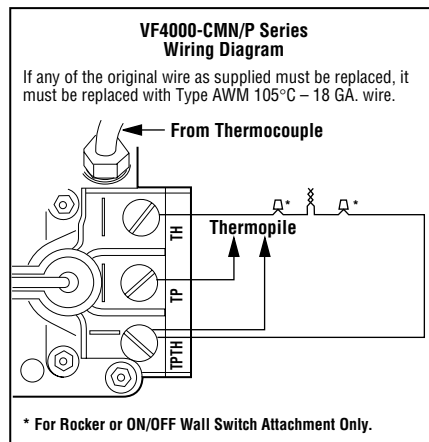
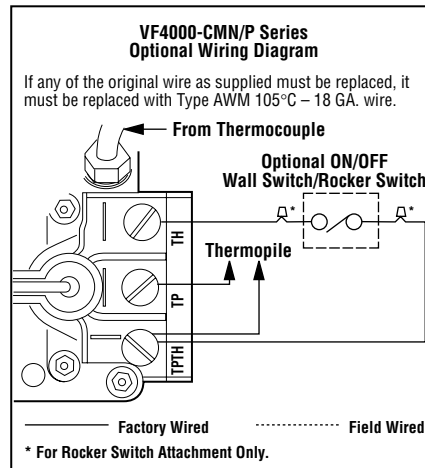

Figure 10
Figure 11
Step 5. Installing the Optional Remote Wall Switch (VF4000-CMN/P models only) – The millivolt system comes from the factory wired as shown in *Figure 10*. Select a convenient location for the remote wall switch and connect the wiring to the appliance (*Figure 11*).
An optional wall switch kit can be installed along with the millivolt controlled appliances. The kit consists of a standard UL wall switch with cover plate. This kit provides for remote (wall) operation of the appliance. Replace the wall switch and cover plate of this kit with the components of the FWSK and you can have true remote control of your vent-free appliance, turning it on and off from your favorite easy chair. The wall switch kit should be installed along with the appliance. Refer to *Figure 11* and Step 5 for detailed installation instructions.